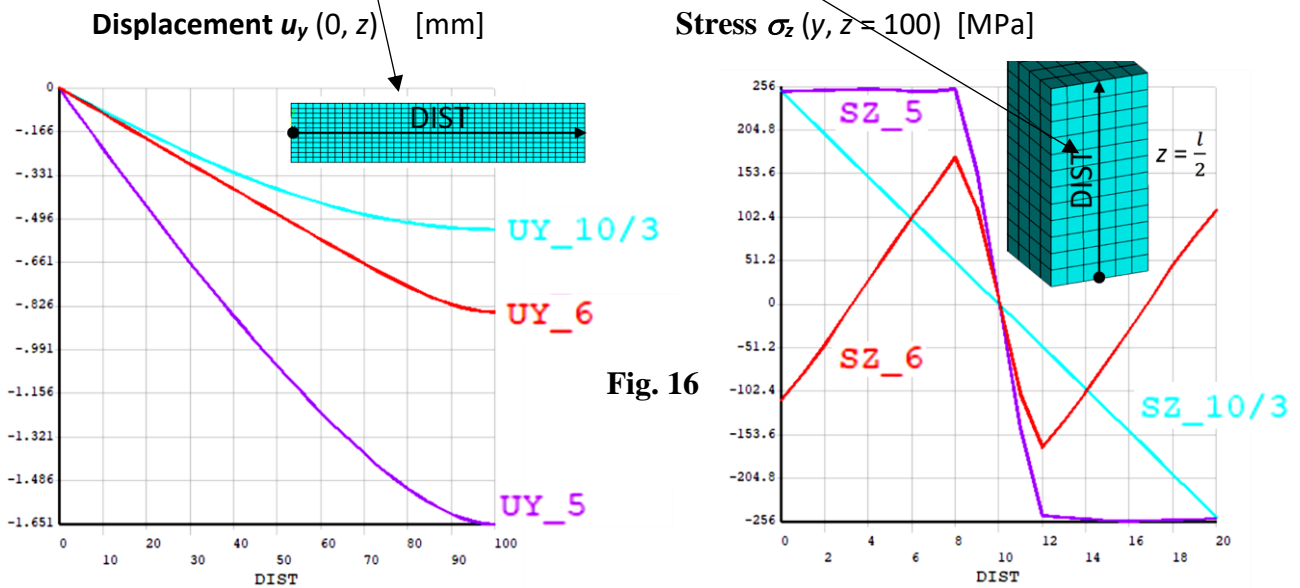

Fig. 16
14. Plot graphs of the displacement UY and stress component SZ at the end of LS1, LS2, LS3 as a function of the distance **ALONG the length of BEAM** and along **THE HEIGHT** and save the graphs (Fig. 16).